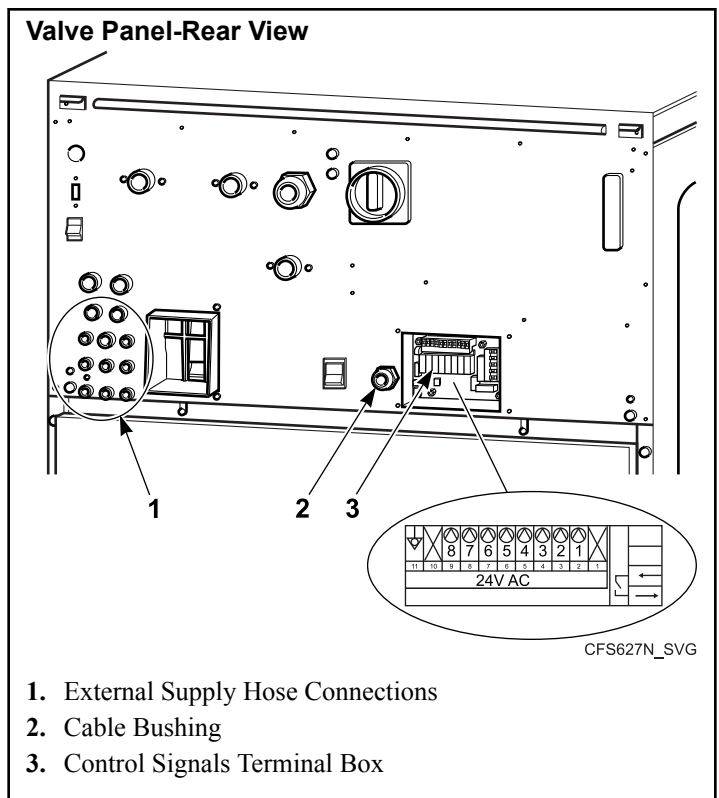

Figure 38
1. Facing the rear of the machine, locate the eight (8) 5/16 inch [8 mm] supply hose connections found on the left-hand side of the valve panel. Refer to *Figure 38*.
The electric connection for supply control signals is available on the rear panel. Refer to *Figure 38*. At the terminal box, there is a label for electric connection. Detail on connection of signals can also be found on the electric scheme of the machine.